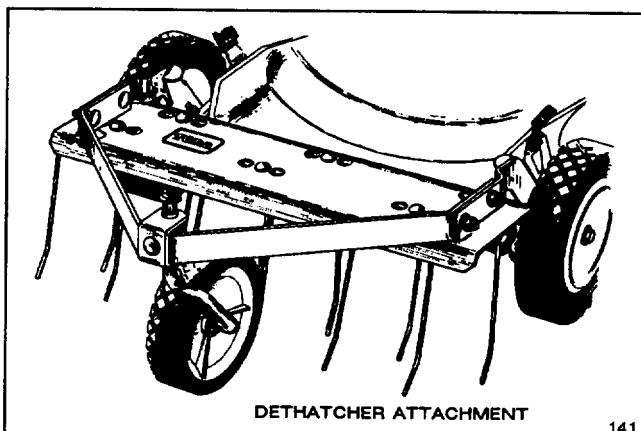

Figure 27
3. **Dethatcher Kit, Model No. 59131**—Installs in minutes. Front mounted for easy maneuverability. Spring tines loosen thatch for recycling or clean vacuuming into grass bag (Fig. 27).